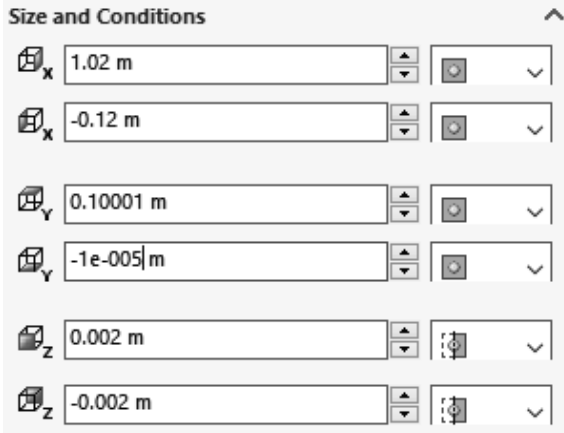
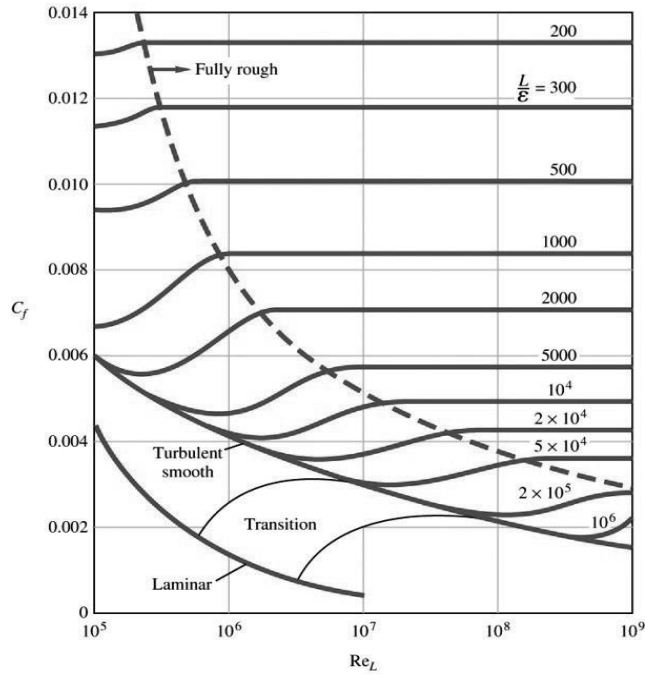

Figure 2.28a) Setting the size of the computational domain
Figure E3. Average friction coefficient for flow over smooth and rough flat plates, White (1999)
27. Select **Tools>>Flow Simulation>>Computational Domain...** Set the size of the computational domain to the values shown in figure 2.28a). Click on the **OK** button to exit. Select **Tools>>Flow Simulation>>Global Mesh...** from the SOLIDWORKS menu, select **Manual Type** and change the **Number of cells per X:** to **400** and the **Number of Cells per Y:** to **200**. Also, click on **Control Planes**. Change the **Ratio** for **X** to **-5** and the **Ratio** for **Y** to **-100**. Click on the green check mark above Ratio, see Figure 2.28b). This will increase the number of cells close to the wall where the velocity gradient is high. Select **Tools>>Flow Simulation>>Calculation Control Options...** from the SOLIDWORKS menu. Change the **Maximum travels value** to **5** by first changing to **Manual** from the drop-down menu. Travel is a unit characterizing the duration of the calculation. Click on the **OK** button to exit.
The average friction coefficient over the whole plate  $C_f$  is a function of the surface roughness for the turbulent boundary layer and also a function of the Reynolds number based on the length of the plate  $Re_L$ , see figure E3 in Exercise 8. This friction coefficient can be determined in Flow Simulation by using the final value of the global goal, the X-component of the Shear Force  $F_f$  and dividing it by the dynamic pressure times the area  $A$  in the X-Z plane of the computational domain related to the flat plate, see figure 2.28a) for the size of the computational domain.
2.8 Use different fluids, surface roughness, free stream velocities and length of the computational domain to compare the average friction coefficient over the entire flat plate with figure E3.